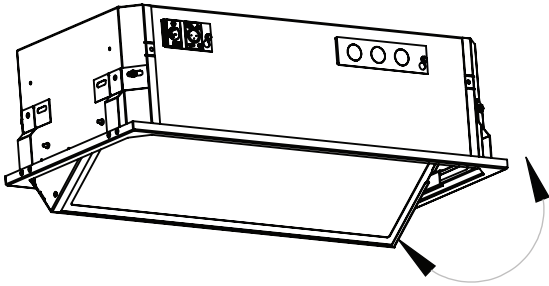

Figure 6
- Rotate the carriage to the desired position (Figure 6).